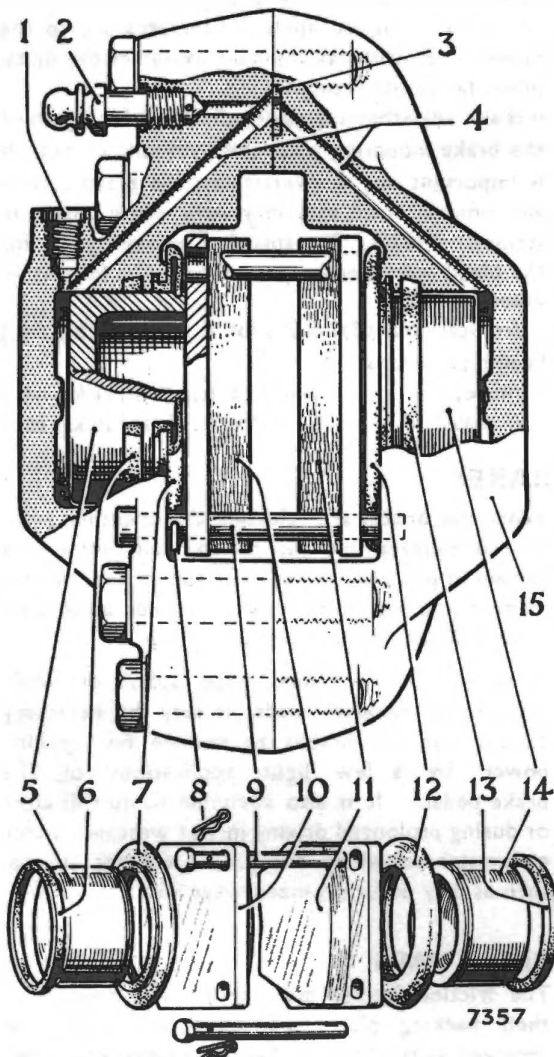

Fig. 2. Exploded view of caliper assembly, Series II models onwards.
On the Alpine II and III there is provision for relocating the master cylinder push-rod in another position on the brake pedal. This in effect moves the pedal pad approximately  $1\frac{1}{2}$  in. (4cm) further away from the driver. The inset of Fig. 2, Section D shows a similar arrangement on the clutch pedal
When replacing the brake pads, the opportunity should be taken to examine the condition and fitting of the rubber dust covers (Item 17 Fig. 2). The method of removing the dust covers is given under "Calipers—to dismantle".
To remove and refit (Figs. 2 and 2a)
**To dismantle (See Fig. 2)**
*If, in an emergency, the caliper has been split and in the event of the fluid channel seal (3) being undamaged, the caliper and caliper bolts should be thoroughly cleaned, dried and reassembled and the bolts tightened to the torque readings given below. After reassembling the unit should be checked for fluid tightness under maximum pedal pressures.*